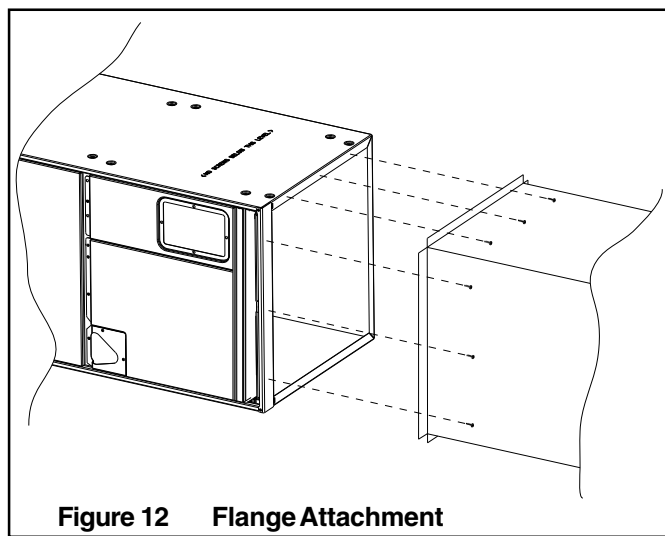

Figure 12 Flange Attachment
- b. Remove the factory installed baffle assembly from the apex of the coil by using a nutdriver to remove the 5/16" screw. Replace this baffle with the factory supplied narrow coil baffle using the screws removed previously. See Figure 12. Reinstall coil assembly.
plied narrow coil baffle using the screws removed previously. See Figure 12.